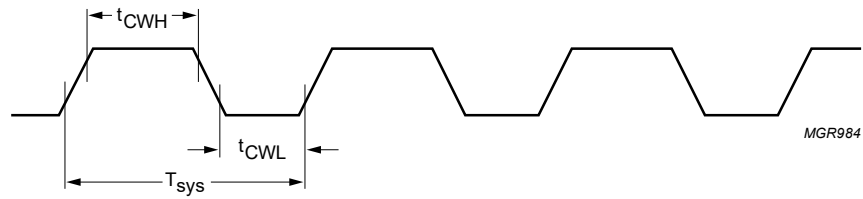

Fig.16 Timing of system clock.
1. The typical value of the timing is specified at 48 kHz sampling frequency (see Fig.16).